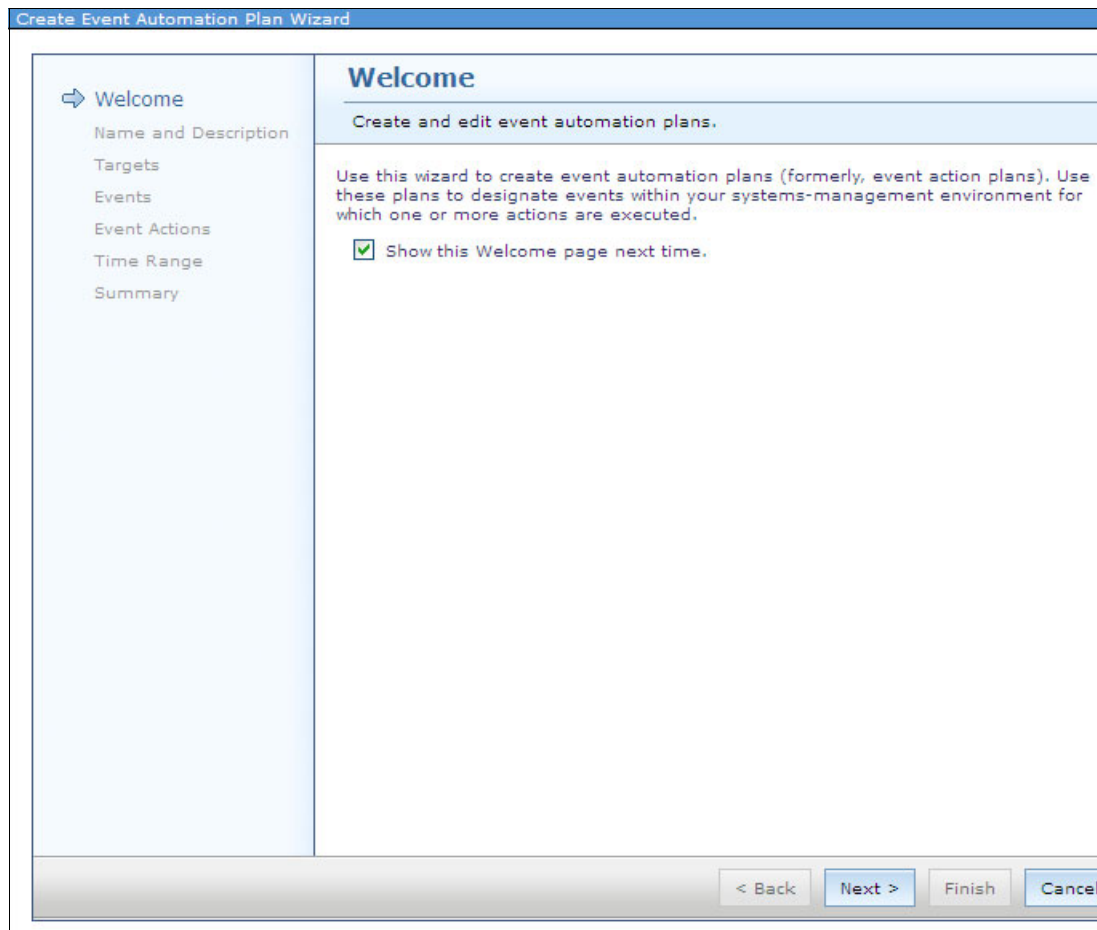

Figure 11-67 Create Event Automation Plan Wizard Welcome window
2. Click **Next** in the Welcome window, as shown in Figure 11-67.